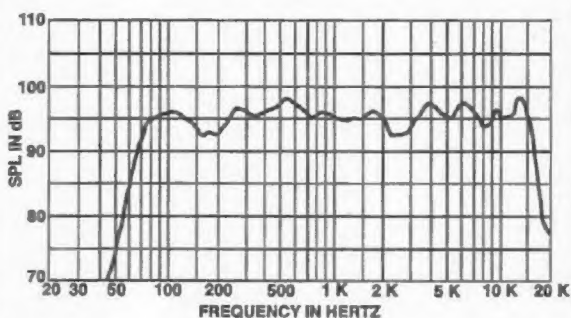

FIGURE 1—DMC-1122X/DMS-1122/85
Frequency Response (measured in far field, calculated to one meter on axis, swept sine wave, one watt into LF section - 2.83 V at 250 Hz, anechoic environment; see Figure 1):
**NOTE:** The gain has been structured within the DMC-1122X controllers so that DMS-1122/85 loudspeaker will have a flat frequency response (as shown in Figure 1) in an anechoic environment with the output levels of the controllers set in the 0-dB-detent position and with the amplifier channels having identical gain driving the LF and HF sections of the speaker.